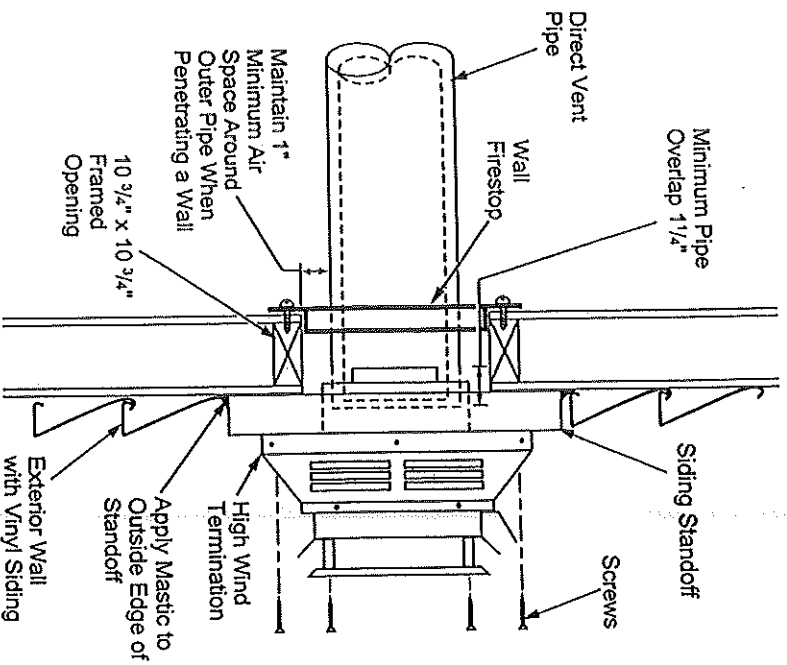

Figure 13 - Typical Horizontal Termination Cap Mounting with Additional Siding Standoff Installed
9. Combustible Exterior Wall Only: Slide wall firestop against interior wall surface and attach with screws provided. See Figure 13 for horizontal termination details.